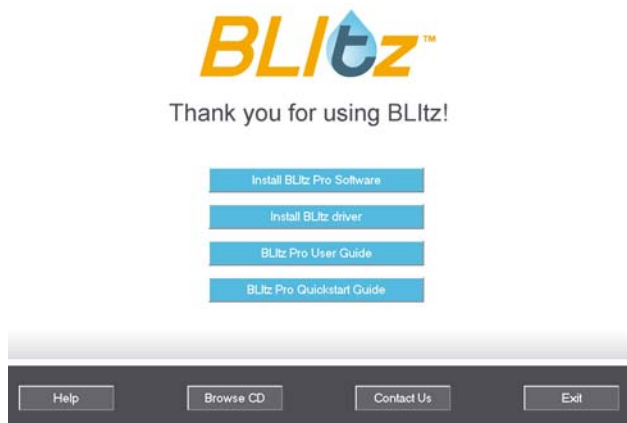

Figure 3-1: Installing the BLItz Pro Software
3. Click **Install BLItz Pro Software** (Figure 3-1) to install the BLItz Pro software.
4. Click **Install BLItz Driver** (Figure 3-1) to install the BLItz driver.